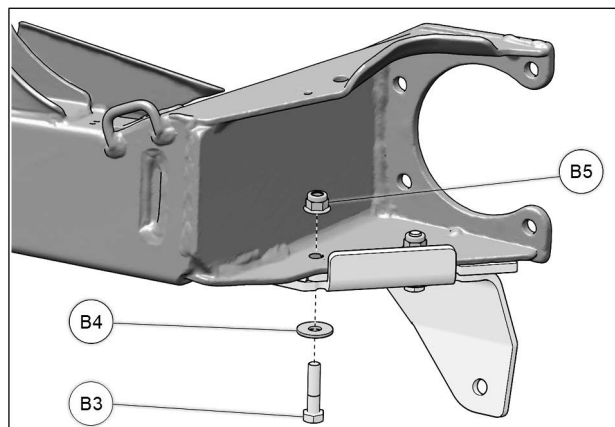

Fig. 7
7. From the bottom, insert a M8x35mm bolt (**B3**) with washer (**B4**) through newly drilled hole, and secure with provided M8 nut (**B5**). Tighten to 33 Nm [24 lb•ft]. See Fig. 7